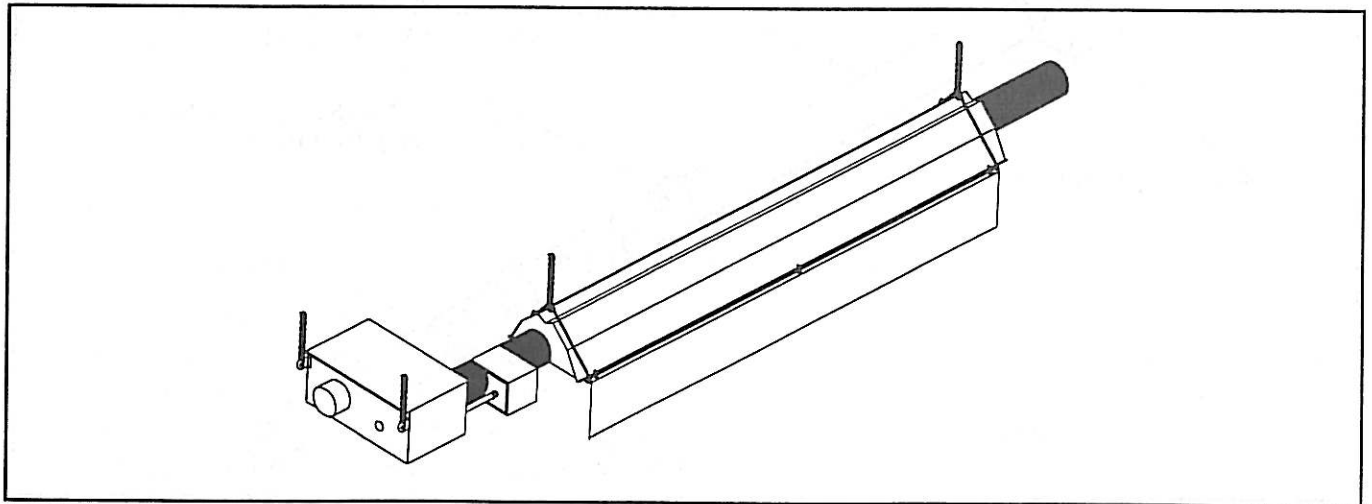

Figure 2-12
2. Install the side shield by hooking the edge holes onto the RCSs (Figure 2-12).